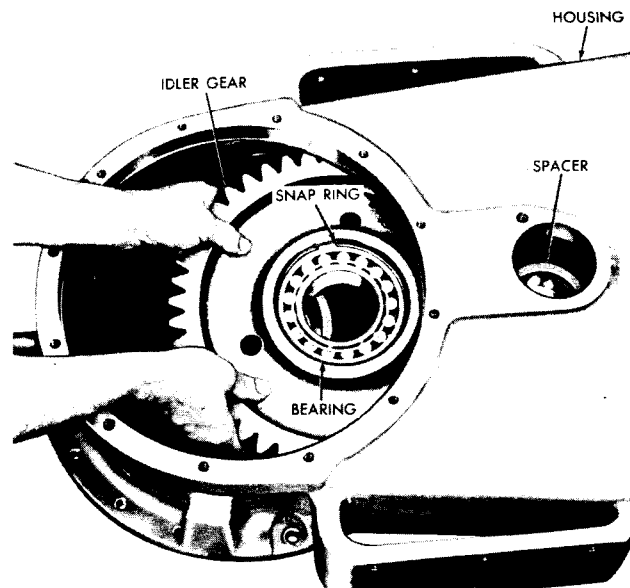

Fig. VII-3. Installing (or removing) transfer idler gear 52435
(9) If the bearing was removed from the transfer idler gear (fig. VII-3) install the bearing by pressing it into the gear to snap ring. Install a second snap ring (fig. VII-3).
(10) Install the idler gear spacer and idler gear, manufacturer's number on the
bearing toward front of housing (down). Aline them with the spindle bore (fig. VII-3).